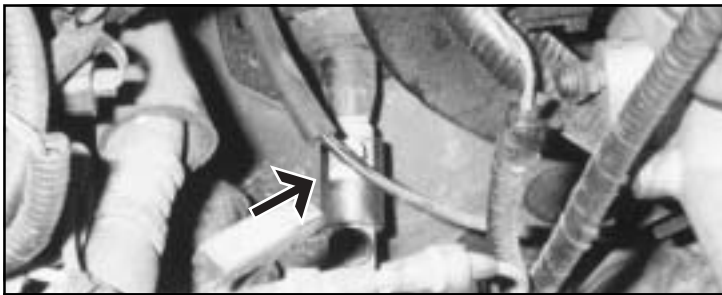

FIG. 11—Steering Extension
- Install the lower steering shaft on the extension by aligning the marks on the shafts (Fig. 11). Fasten the lower shaft to the extension with the stock hardware. Tighten all mounting hardware. *Use Loctite® on all steering hardware.*